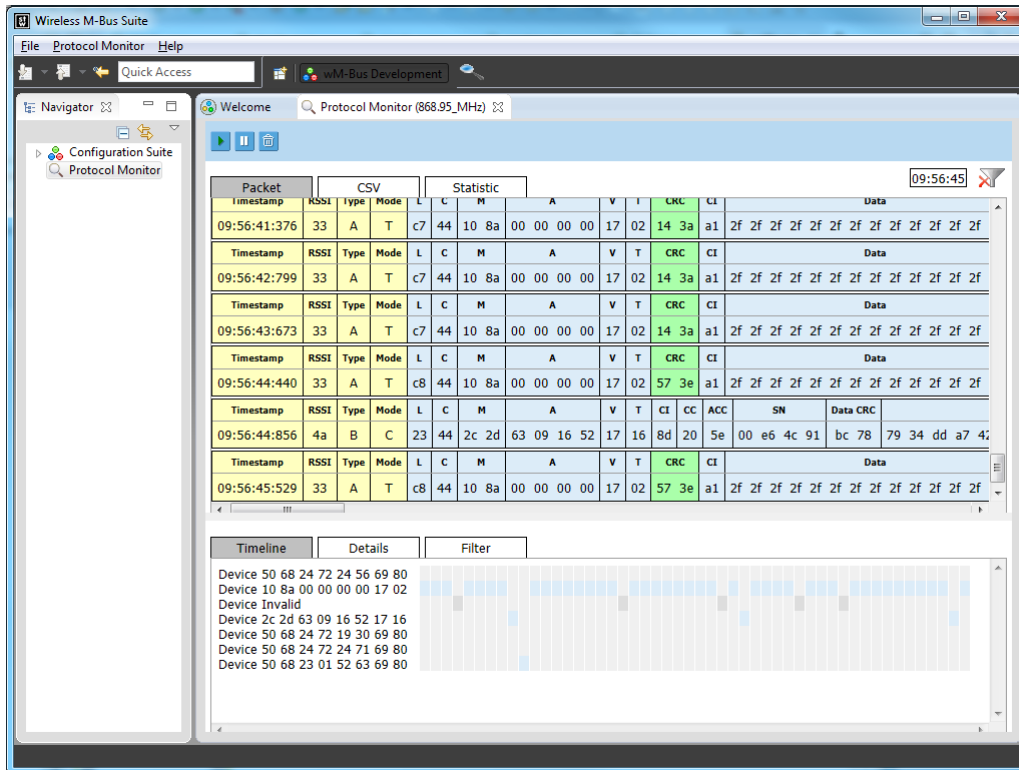

Figure 54: Wireless M-Bus Protocol Monitor
- (6) Now the wireless M-Bus protocol monitor window will be opened.
- (7) To start capturing packets click on the green arrow at the top of the screen as shown in figure 54. Now all packets are captured from the protocol monitor device. If there are already some packets in the device buffer they are read, too.